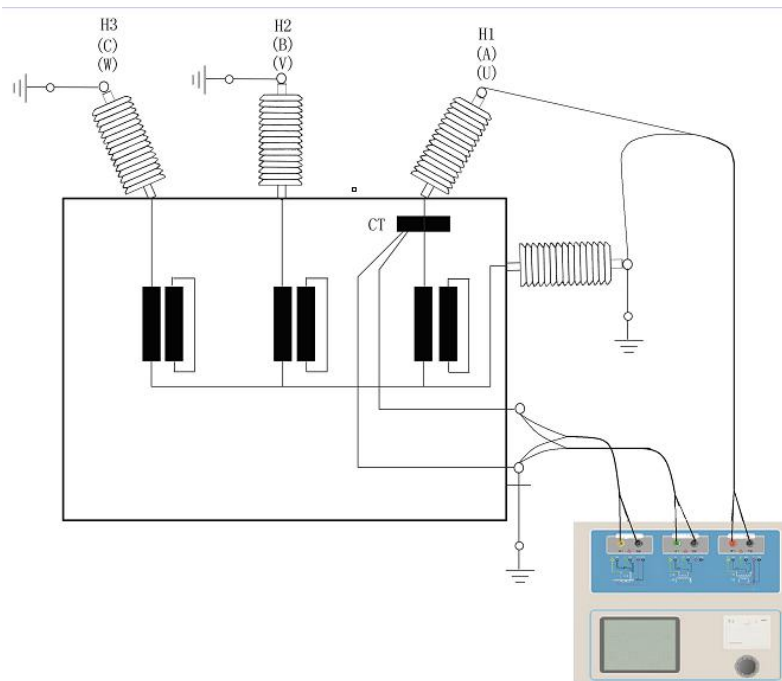

Figure D.3 HZCT-100B on the transformer bushing testing at the time of CT Connection
2. HZCT-100B for transformer testing casing CT Connection shown in Figure D.3.